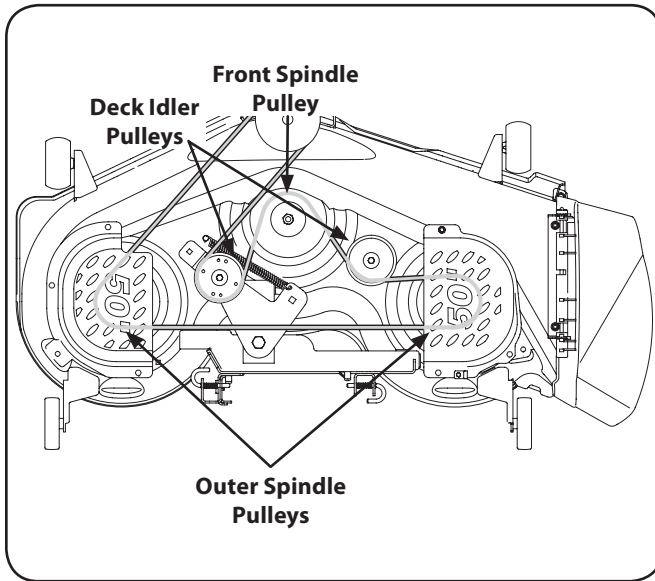

Figure 7-8
- To place the new belt begin by routing the belt around the two outer spindle pulleys, then around the front spindle pulley as shown in Fig. 7-8.
- Then route the belt around the two deck idler pulleys as show in Fig. 7-8.